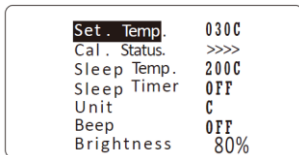

Fig.6
6.3.2. When Cal. status display “>>>>” (see Fig 6.), it means “Real Temp.” has calibrated and increase temperature.